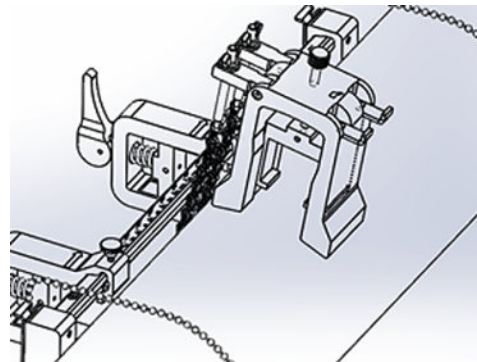

Figure 26: Yoke placement on top of pipe
2. Place the yoke on the top of the pipe (see Figure 26 below). If the required transducer spacing is <305 mm/12 in., the yoke chain must be placed within the clamping fixture as shown.